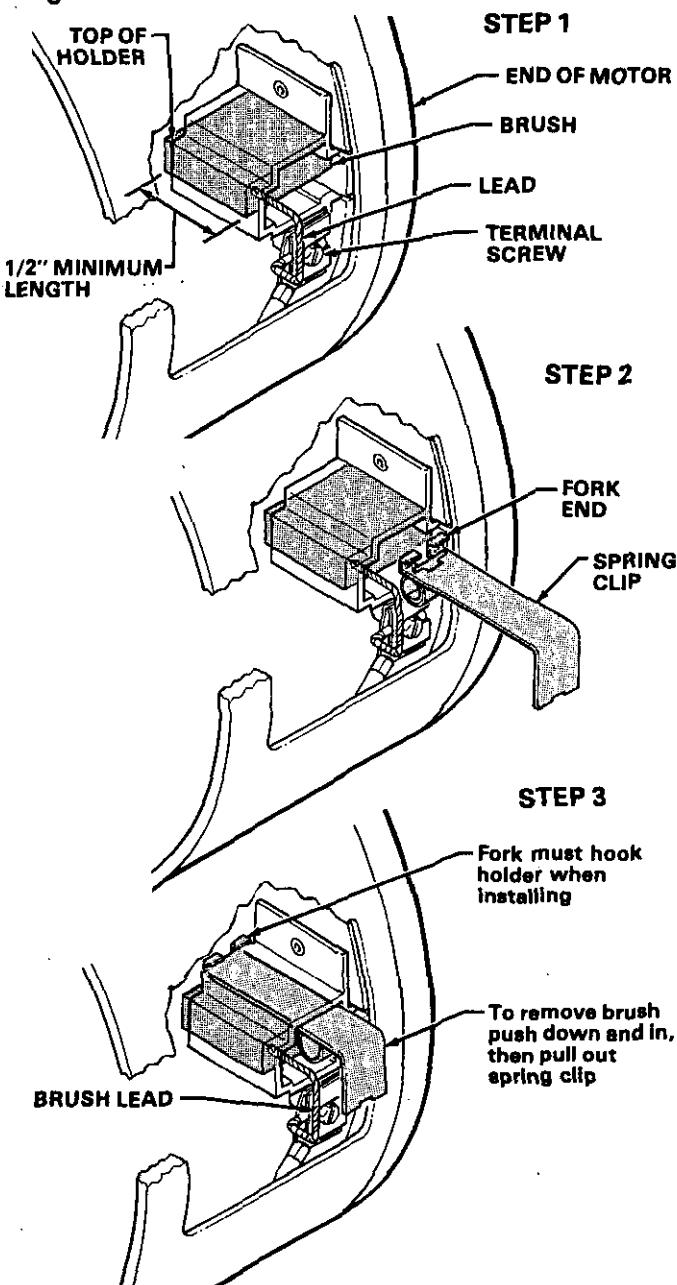

Fig 14
**NOTE:** Replace the brushes when they have worn to no less than 1/2 in. See STEP 1, Fig 14. Note that the brushes wear differently on each side of the motor. Brush Repair Kit 220-349 is available.
3. Push down and then in on the spring clip, and then pull the clip out of the brush holder. Refer to STEP 3, Fig 14. Keep the spring clip.
7. Place a new brush in the holder so the lead is at the top of the holder. Place the brush lead terminal on the terminal screw so the terminal is parallel with the brush holder. Tighten the terminal screw. See STEP 1, Fig 14.
8. With the spring roll touching the brush, push the forked end of the spring clip into the brush holder. See STEP 2, Fig 14. When the fork passes through the end of the holder, push the clip up or down until the fork hooks the end of the holder. See STEP 3, Fig 14.
9. Position the brush lead as shown in STEP 3, Fig 14. Be sure the brush lead does not touch any part of the armature or motor housing.